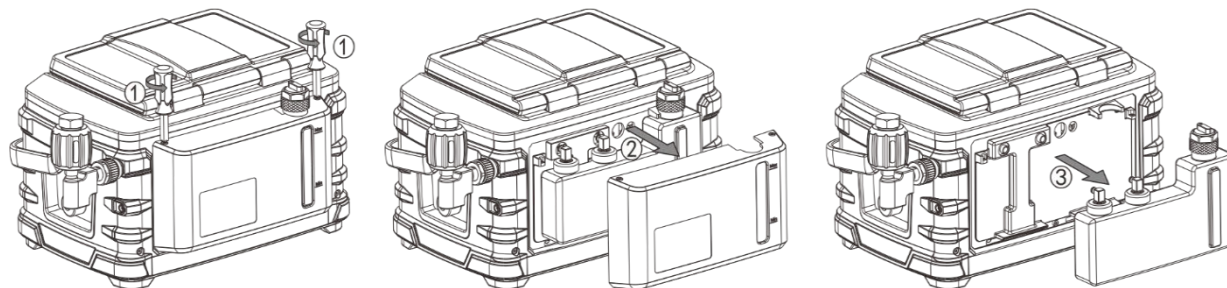

Figure 33 Disassembly of the liquid reservoir
1. The maintenance of the liquid reservoir is as shown in Figure 33: